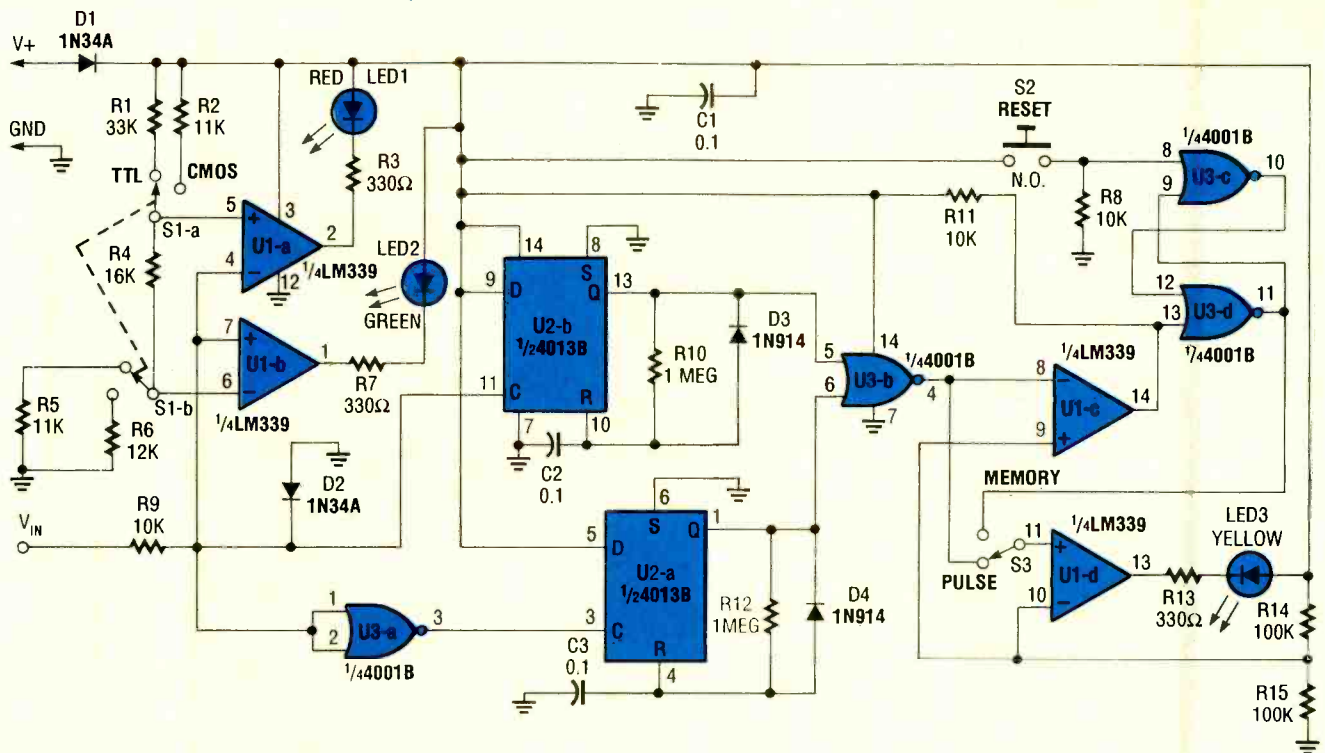

Fig. 1. The Experimenter's Logic Probe detects high and low logic levels, and level transitions for both TTL and CMOS integrated circuits.
**Inside Shaky.** The schematic diagram of the circuit is shown in Fig. 1. A touch plate (TP1) is connected to the base of Q1 and to ground through two 22-megohm resistors, R1 and R2. Transistors Q1 and Q2 are connected as a Darlington configuration, which offers a very high input impedance to TP1.
Fig. 1. Here is the schematic diagram of Shaky's inner workings, which contain no exotic parts. In fact, the giant LED's and the hexFET's used in the project are available locally from Radio Shack stores.
**Inside the Probe.** Figure 1 is a schematic diagram of the Experimenter's Logic Probe. The circuit contains three integrated circuits—an LM339 quad comparator (U1), a 4013B dual D-type flip-flop (U2), and a 4001B quad two-input NOR gate (U3).
Begin by installing the sockets for U1-U3, but don't plug the IC's into their sockets until all circuit wiring has been completed. Use Fig. 1 as a guide when wiring the circuit to the board, installing the components as required. Be sure to observe the proper polarity for D1-D3 and LED1-LED3.
**Pulser Circuitry.** Figure 1 is a schematic of the *Experimenter's Logic Pulser*. The circuit contains three IC's—U1, a 556 dual oscillator/timer; U2, a 4013B CMOS dual D-type flip-flop; and U3, a 4066B CMOS quad bilateral switch—all of which are commonly available from local electronics hobbyist outlets and through mail-order electronics suppliers.